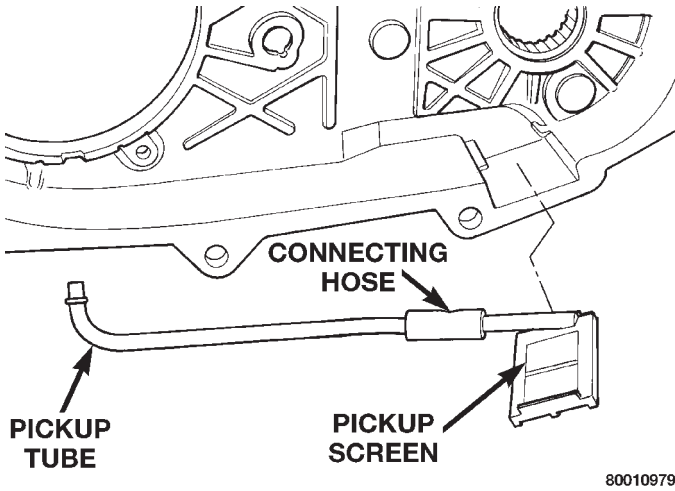

Fig. 18 Oil Pickup Screen, Hose And Tube Removal
(13) Remove oil pickup tube and screen from rear case (Fig. 18).